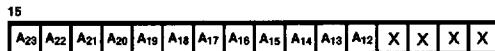

Figure 10. Interrupt/Trap Vector Table Pointer
**Interrupt Request Pending (IP).** When bit IPn is set to 1, an interrupt request from sources at level n is pending. (See the Interrupt and Trap Structure section.)
**Interrupt Mode (IM).** A value of n in this 2-bit field indicates that interrupt mode n is in effect. This field can be changed by executing the IM instruction.
**Interrupt Vector Enable (I).** These four bits indicate whether each of the four interrupt inputs are to be vectored. When In is set to 1, interrupts on the Interrupt n line are vectored when the CPU is in interrupt mode 3; when cleared to 0, all interrupts on this line use the same entry in the Interrupt/Trap Vector Table. These bits are ignored except in interrupt mode 3.
**Interrupt/Trap Vector Table Pointer.** This 16-bit register (Figure 10) contains the most significant 12 bits of the physical address at the beginning of the Interrupt/Trap Vector Table: the lower 12 bits of the physical address are assumed to be 0.